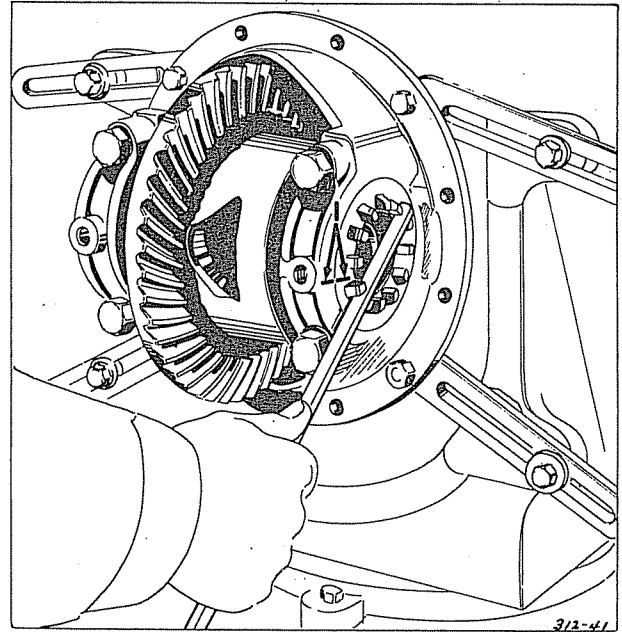

Fig. 35—Adjusting Differential Bearings.
- (1) Mount carrier in stand and mark both differential bearing adjusters and caps to facilitate assembly. (Figure 35).
- (2) Loosen differential bearing cap, retaining screws and bearing adjusters to relieve load on
- (4) Tighten cap screws sufficiently to hold caps into place but not securely tight.
- (5) Screw differential bearing into place, as shown in Figure 35.
- (6) Set bearing adjuster on left hand side to permit an approximate adjustment of clearance between ring gear and drive pinion, then tighten right hand bearing adjuster with
- (1) Instal ring gear, tighten attaching bolts and close locks around nuts.
- (2) Instal differential assembly in carrier, and tighten cap screws sufficiently to hold caps in place.
- (3) Screw the differential bearing adjusters into place, as shown in Figure 35.
- (4) Set bearing adjuster on left-hand side to permit an approximate adjustment of clearance between ring gear and pinion.